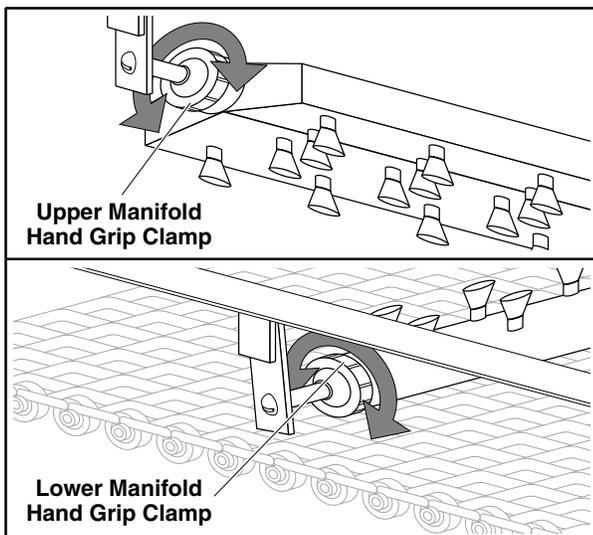

Figure 16: Scrapper Spray Manifold Hand Grip Clamp
- b. Unscrew the Manifold Hand Grip clamp to loosen the Scrapper Spray Manifold (Figure 16).